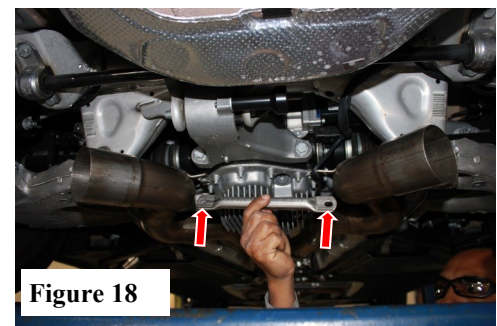

Figure 18
7. Install factory rear cross-brace using factory hardware. (See Fig. 18)